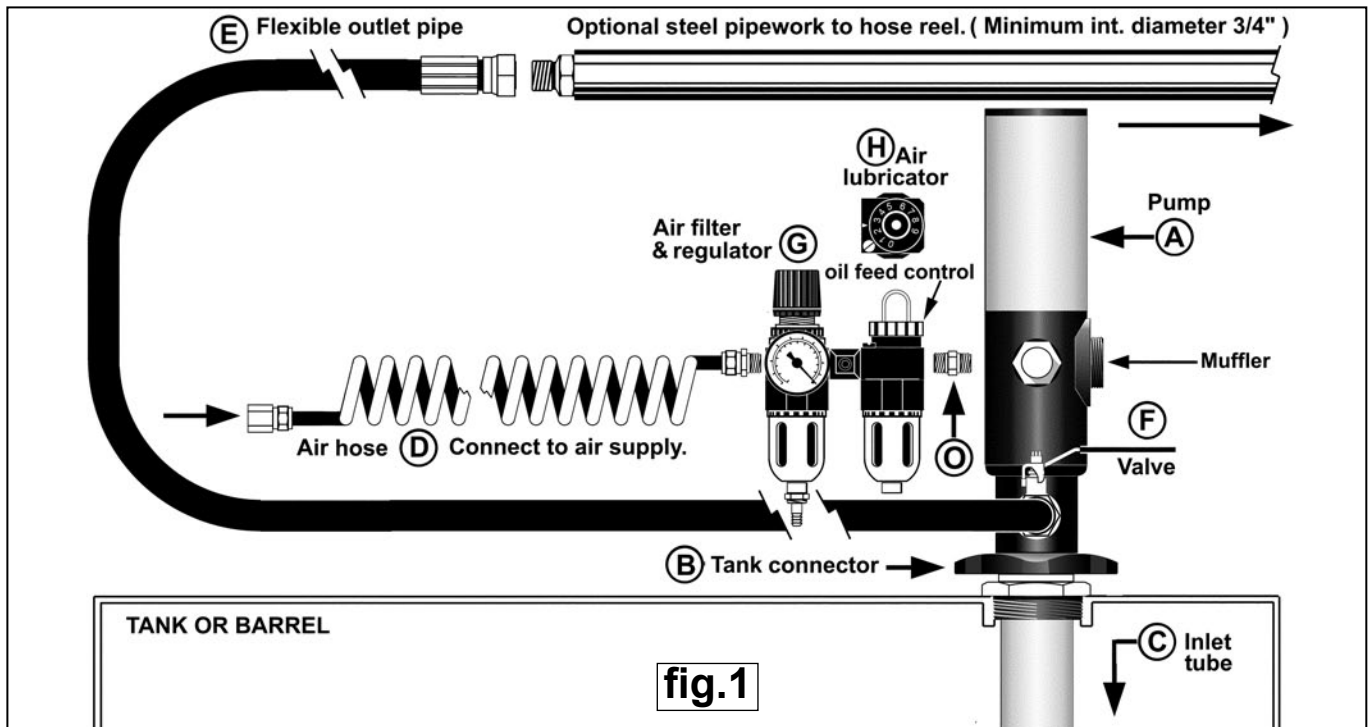

fig.1
4.1 Check contents against items in fig.1 and fig.2. Remove items from carton, identify and check pieces for any damage. Contact supplier immediately if you experience a problem.
#### AK4555D.V2 Pump (Fig.1):
### 5.1 Installing the pump and oil pipe connections. ( See fig.1 )
### 5.2 Installing the air management system. ( See fig.1 )
- 5.2.3 Connect the filter/regulator/lubricator assembly to the pump air inlet using fitting (O). Note the air flow direction arrows on each unit and that lubricator must be between the pump and filter-regulator as shown in Fig.1.
- 5.3.2 Where a pipeline has been installed between the pump and reel connect the shut off valve (K) and filter/drain cock (L) to the end of the pipeline as shown in fig.2. Use the flexible inlet hose (J) to connect between the filter/drain cock and the inlet elbow (P) on the reel. Where there is no pipeline connect the pump directly to the reel using the flexible hose from the pump.(see E in fig.1) In this case the filter/drain cock should be installed between the shut off valve on the pump and the flexible hose.
- 7.1. Air line lubricator and water trap** (see fig.1)